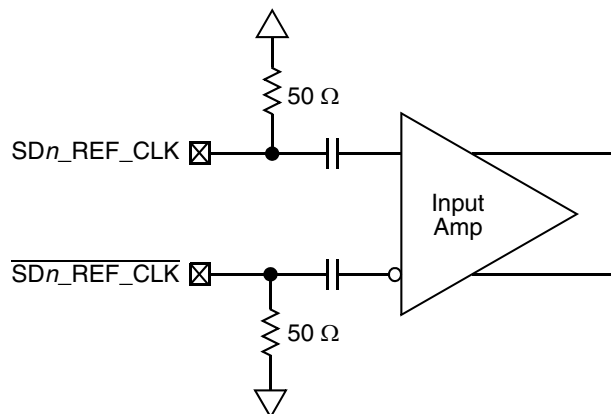

Figure 45. Receiver of SerDes Reference Clocks
Figure 45 shows a receiver reference diagram of the SerDes reference clocks.
- The `SDn_REF_CLK` and `SDn_REF_CLK` are internally AC-coupled differential inputs as shown in Figure 45. Each differential clock input (`SDn_REF_CLK` or `SDn_REF_CLK`) has a 50-Ω termination to `SGND_SRDSn` (`xcorevss`) followed by on-chip AC-coupling.